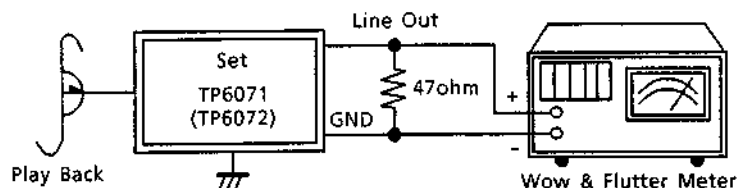

Figure 17
- (1) Make the connections as shown in Figure 17 and turn the power ON.
- (2) Ground TP6071, insert the test tape MTT - 111N (3kHz, -10dB) into deck A and play it back. Adjust VR6072 so that the line output becomes 6,000Hz when the tape is played back.
- (3) Ground TP6072 as in (2) for TP6071, insert the test tape into deck B and adjust VR6074 so that the line output becomes 6,000Hz when the tape is played back.
- (2) Insert test tape MTT - 111N (3kHz, -10dB) into deck A and play it back. Adjust VR6071 so that the line output during playback becomes 3,000Hz i.e. that the wow and flutter is 0.14% (JIS WTD) or less.
- (3) Insert test tape into deck B as in deck A and adjust VR6073 so that the line output becomes 3,000Hz when the tape is played back. Make sure that the wow and flutter at that time is 0.14% (JIS WTD) or less.